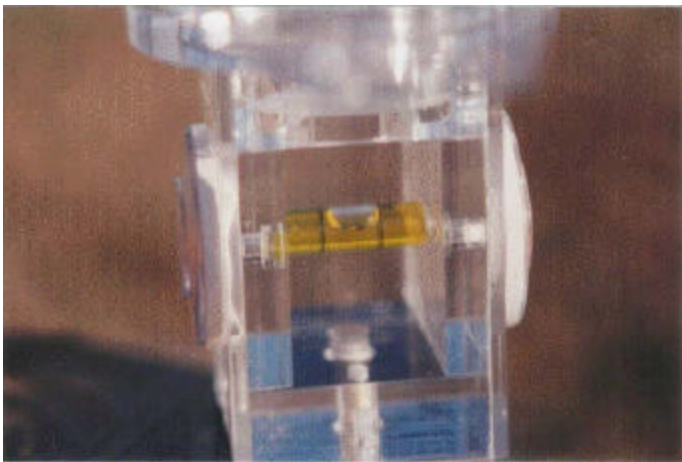

Fig. 2A
- (3) Bring TARGET: SAT™ to level using unit's horizontal bubble and angle finder as shown in Fig. 2A and 2B. Center bubble in vial and angle finders at zero. This is done by adjusting the tripod leg length and the pan head adjustment.